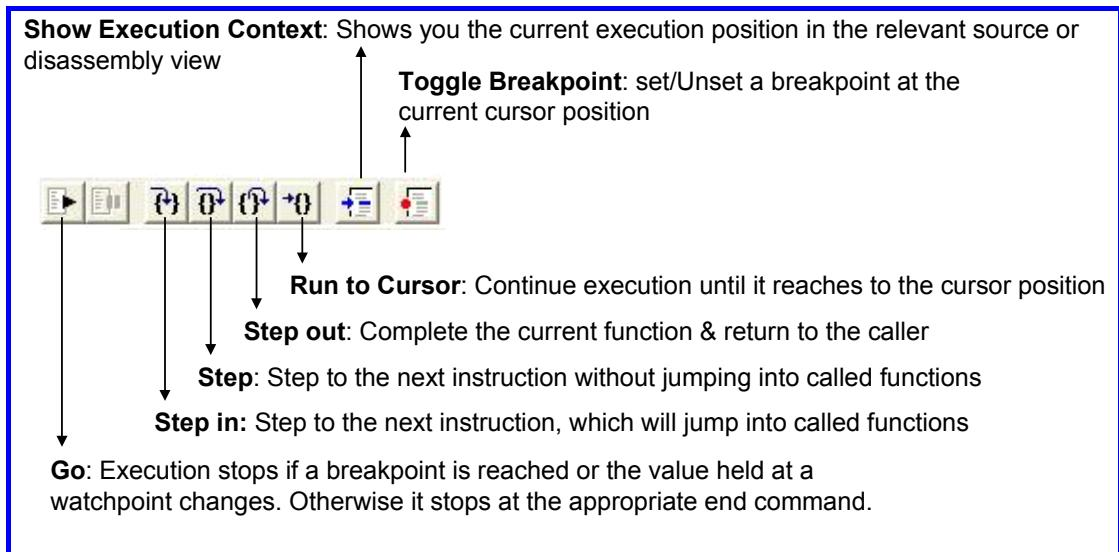
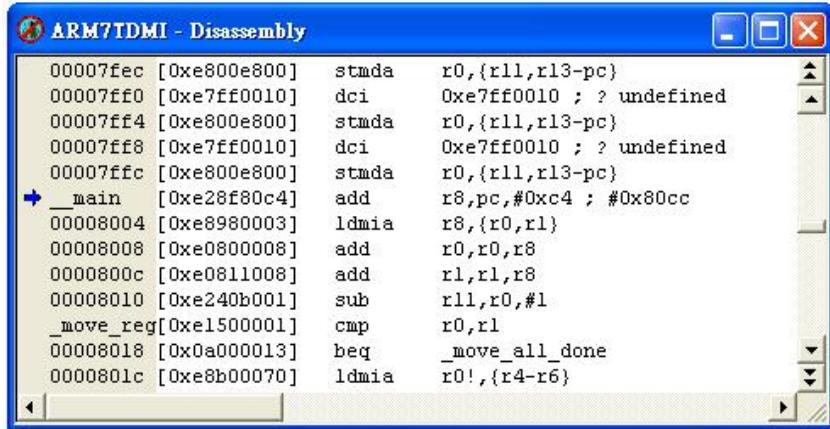

Figure 29. The Execute menu.
Figure 30. The disassembled code.
5. Use **Execute → Step** (or F10) or the button shown in Figure 29 to step through the application. The disassembled code is displayed and a pointer indicates the current position (Figure 30). Use **F10** to execute the next instruction.